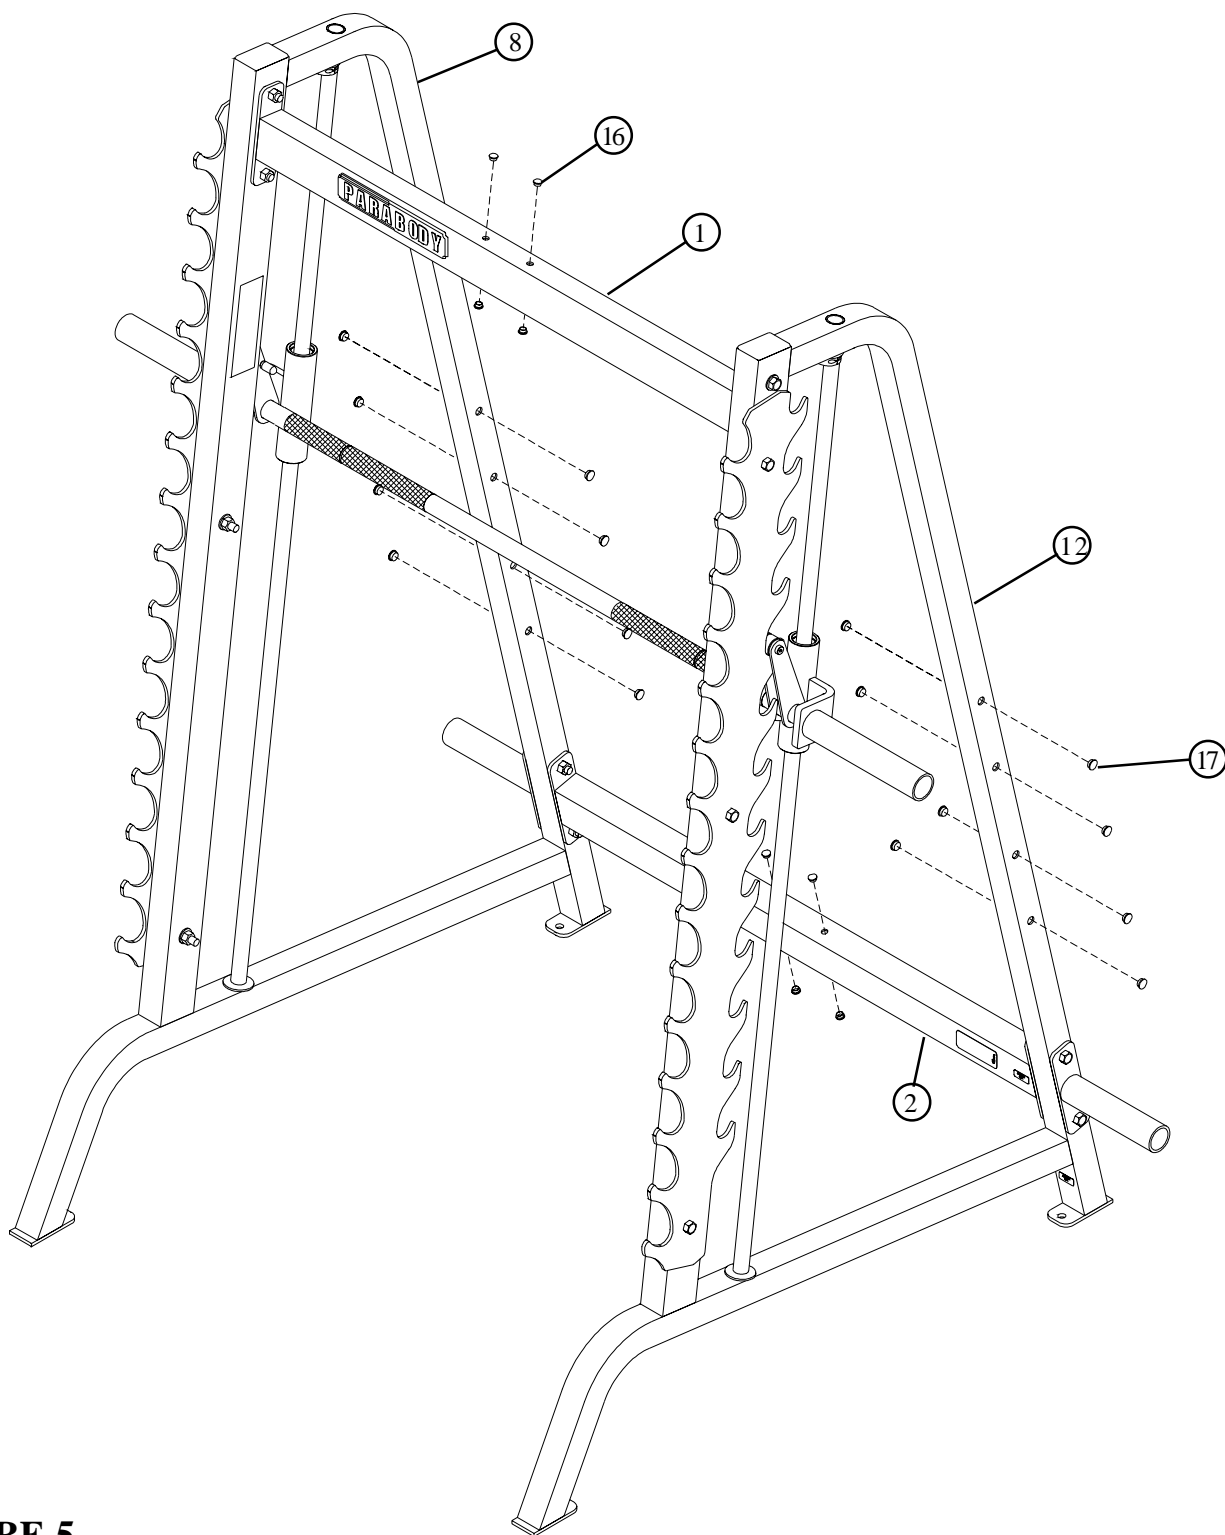

**FIGURE 4**
- Assemble the LEFT & RIGHT BAR SUPPORT (3 & 4) to the LEFT and RIGHT UPRIGHT FRAMES (8 & 12) as shown in FIGURE 4.